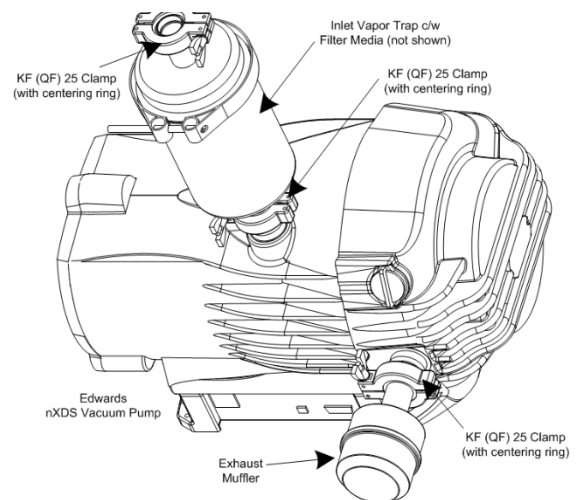

Figure 12 Vacuum Pump
4. Remove all 4 bolts using the supplied allen key (shown in Figure 12).
5. Locate the locking posts (locations shown in blue circle in Figure 12) for the lower chamber and pull out to remove. The lower chamber can be pushed side to side to access or to allow the upper chamber to open.